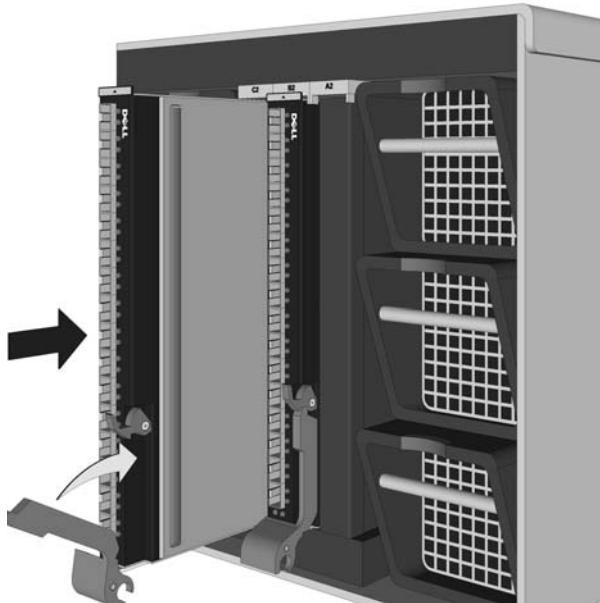

Figure 1-2. Installing the Pass-Through Module
- 5 Rotate the latching arm upward until it is flush against the front panel, and the top of the arm is seated in the latch, as shown in Figure 1-2, *Installing the Pass-Through Module*.